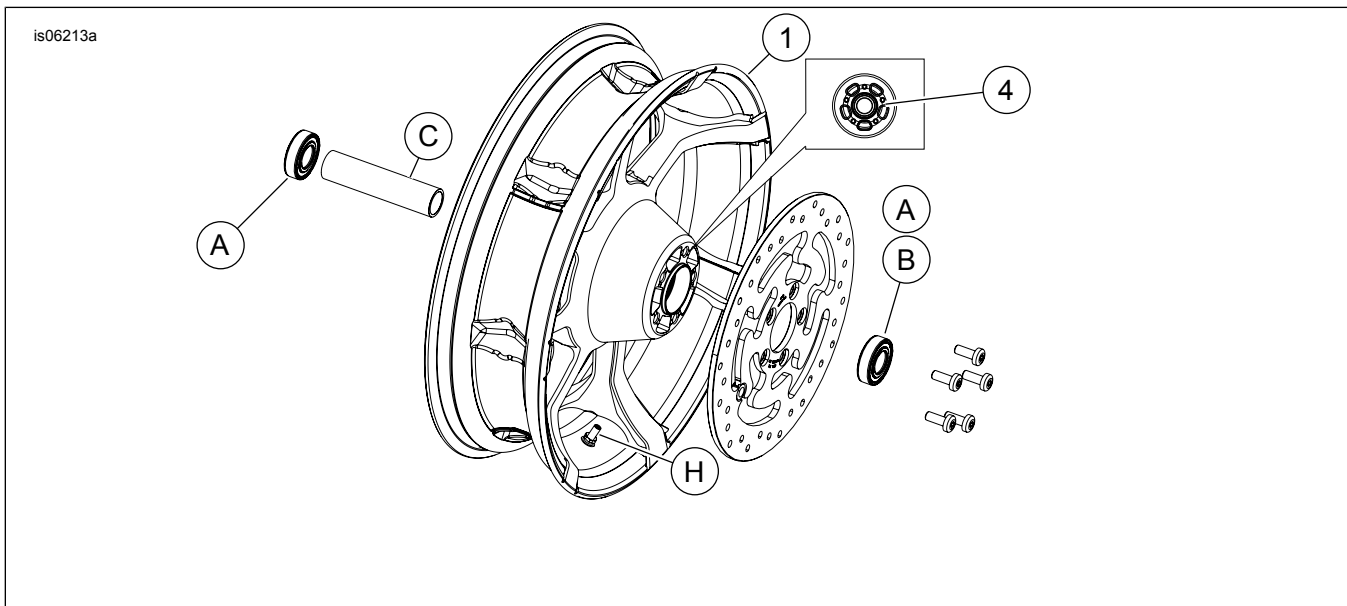

Figure 1. Service Parts: Rear Agitator Wheel (18-inch shown)
See Figure 1 and the Service Parts Tables.
2. See Figure 1. Install valve stem assembly (H) on wheel. See the service manual.